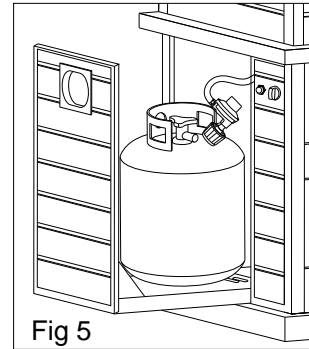

Fig 5
2. Put the tank into the tank rack. See Fig 5.